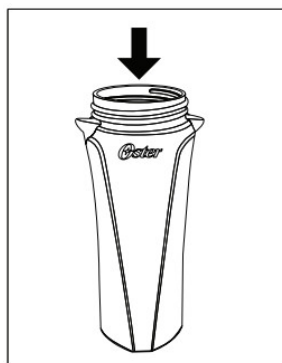

Figure 1
1. Place ingredients into cup. (Figure 1)